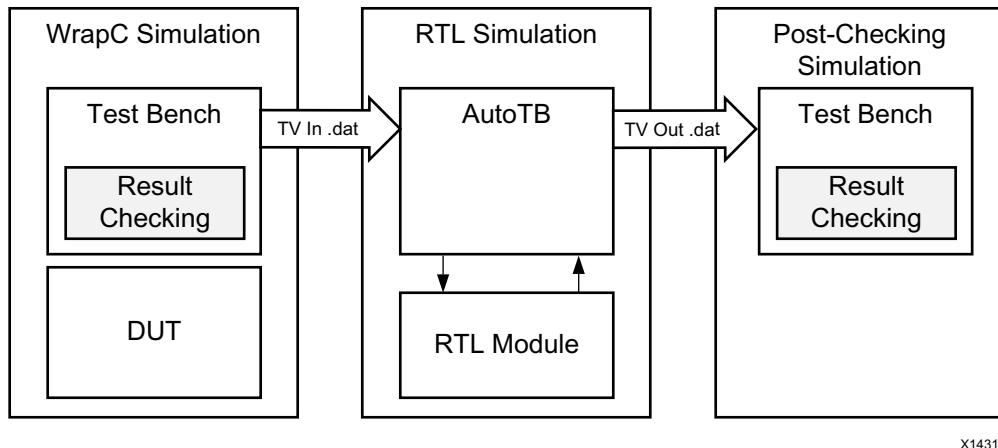

Figure 1-71: RTL Verification Flow
C/RTL co-simulation uses the C test bench to automatically verify the RTL design. The verification process consists of three phases, shown in Figure 1-71.
- Reduce Disk Space: The flow shown Figure 1-71 in saves the results for all transactions before executing RTL simulation. In some cases, this can result in large data files. The `reduce_diskspace` option can be used to execute one transaction at a time and reduce the amount of disk space required for the file. If the function is executed N times in the C test bench, the `reduce_diskspace` option ensure N separate RTL simulations are performed. This causes the simulation to run slower.